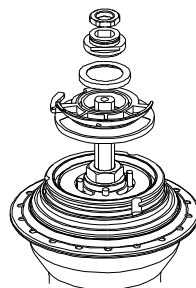

Fig 3
10. Fit the cable pulley such that the two columns of shift actuator insert the two holes of the cable pulley. (Fig 3)
11. Locate the dust cap, fulcrum lever base, and then screw down the fulcrum lever base locknut. (Fig 3)